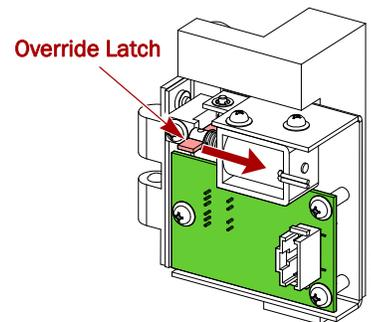

Figure 3. Media Drawer Latch Release, Rear View
3. From the left side, at the back of the bottom-left media drawer, press the door's **latch release** (Figure 3) and push the **media drawer** forward.